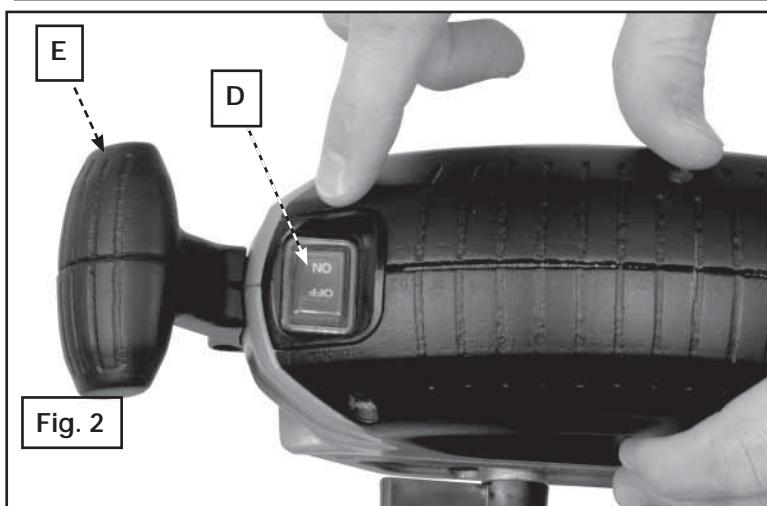

Fig. 2
**WARNING:** To reduce the risk of injury, be sure sander is turned off and disconnected from the power supply when changing the sanding belt. Before reconnecting the tool, make sure the switch (D) Fig. 2 is in the off position.
To turn unit on, depress the side of the dust-protected switch (D) Fig. 2 that reads "ON" and corresponds to the symbol "I." To turn the unit off, depress the side of the switch that reads "OFF" and corresponds with the symbol "O."
The front auxiliary handle is removable to allow the sander into tight spaces. The unit comes with the handle (E) Fig. 2 installed as shown. To remove the handle, loosen the screw (S) Fig. 4 in the center of the handle using a flat head screwdriver and then remove handle and screw.
2. Turn on switch (D) Fig. 2 to start the belt.
This can be a one-handed tool. Proper hand position would be to have one hand on the rubber portion of the body, as shown in Fig. 6. If needed, the other hand can grip the auxiliary handle (E) Fig. 2.